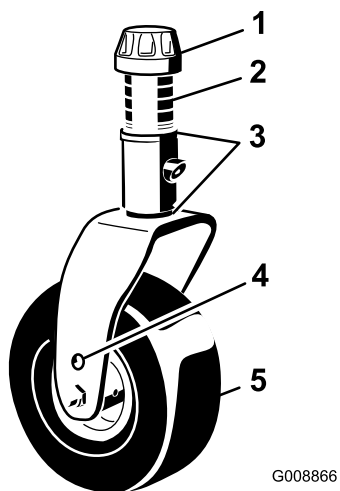
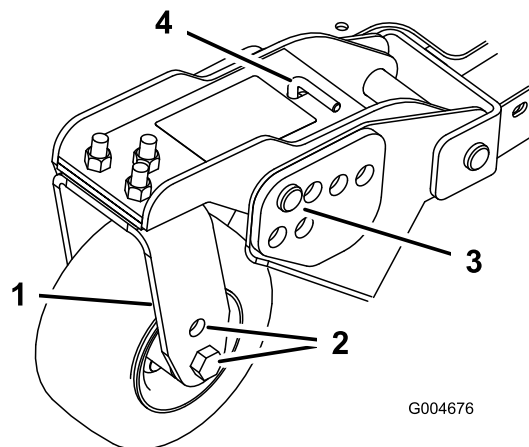
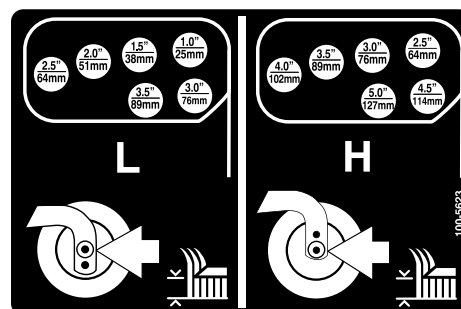

Figure 26
Figure 28
Figure 29
1. Position the caster-wheel axles in the same holes in all of the caster forks (Figure 26 and Figure 28).
2. Remove the tensioning cap from the spindle shaft and slide the spindle out of the caster arm (Figure 26).
5. Remove the hairpin cotter and clevis pins from the caster-pivot arms (Figure 28).
6. Rotate the tension rod to raise or lower the pivot arm until the holes are aligned with the selected height-of-cut bracket holes in the mower-deck frame (Figure 28 and Figure 29).